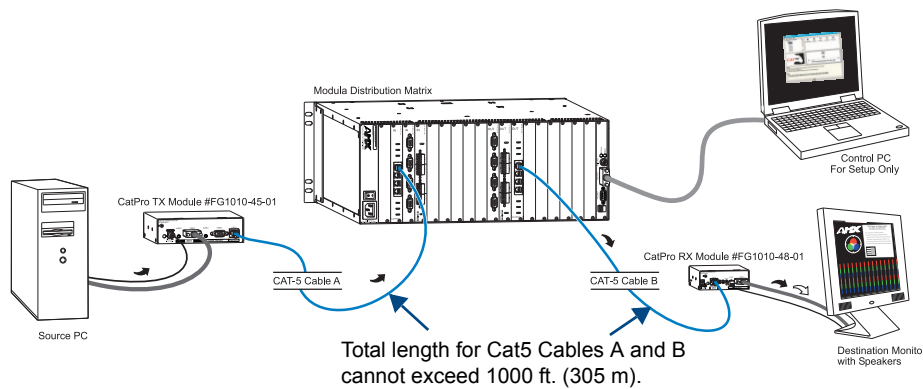

FIG. 59 Routing Path C
3. Cable the complete routing paths from the source devices to the destination devices. FIG. 59 shows the placement of TX and RX Modules. All cable should be the actual cable that will be used. The minimum cable length for a Modula CatPro Input board should not be less than 12 feet (3.66 m).